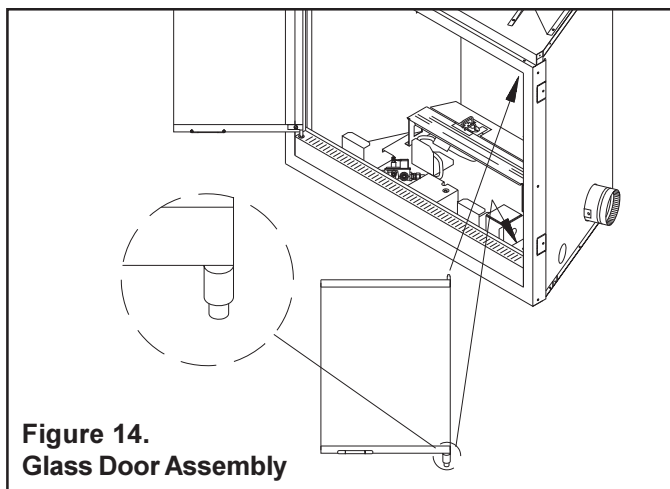

Figure 14.
- Attach u-channel and door clips on top door ledge per installation instructions. See Figure 14.